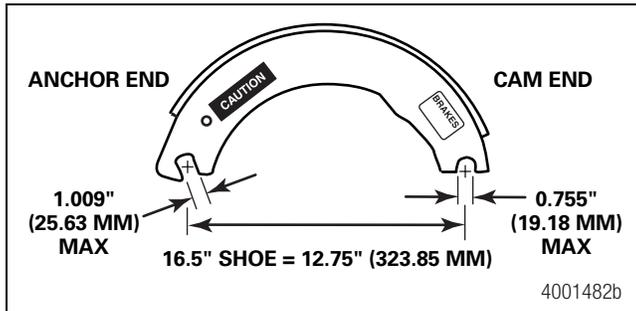

Figure 3.6
- With the roller and anchor pin installed, measure the distance from the center of the anchor pin slot to the center of the roller slot. Figure 3.6. The distance must not exceed 12.75-inches (323.85 mm). Replace any brake shoes that do not meet measurement specifications.